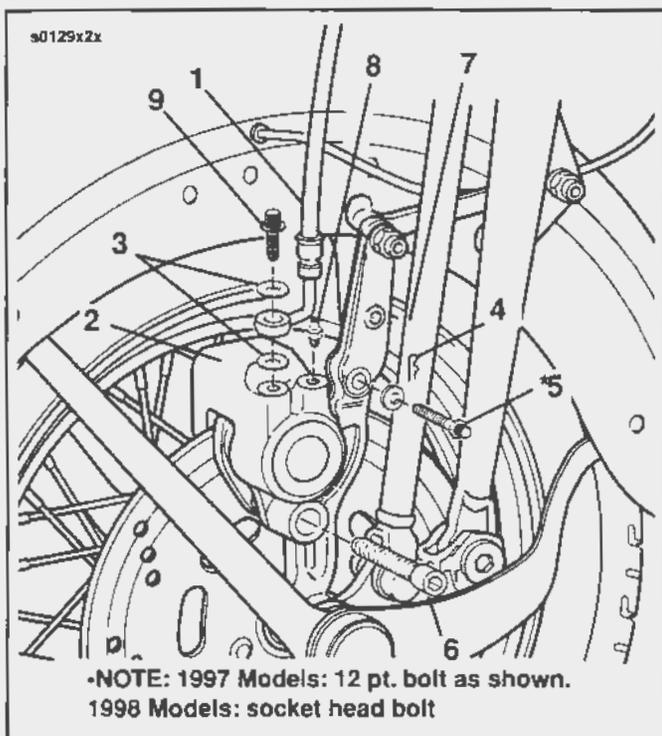

Figure 2-54. Brake Mounting -FLSTS (1997 Model Shown)
1. See Figure 2-54. Disconnect brake line (1) from caliper (2) and front master cylinder. Drain brake fluid.
2. Discard banjo bolt washers (3). Remove brake line assembly, if necessary.
4. See Figure 2-54. Remove spring pin (4) from upper caliper mounting bolt (5).
1. See Figure 2-54. Coat the outside diameter of lower mounting bolt (6) with Dow Corning MOLY 44 light grease.
3. Install brake caliper (2) on brake disc.
5. See Figure 2-54. Place flat washer (7) on upper mounting bolt (5), then insert the bolt through the bracket holes and the mounting plate. Screw the bolt into the threaded bushing.